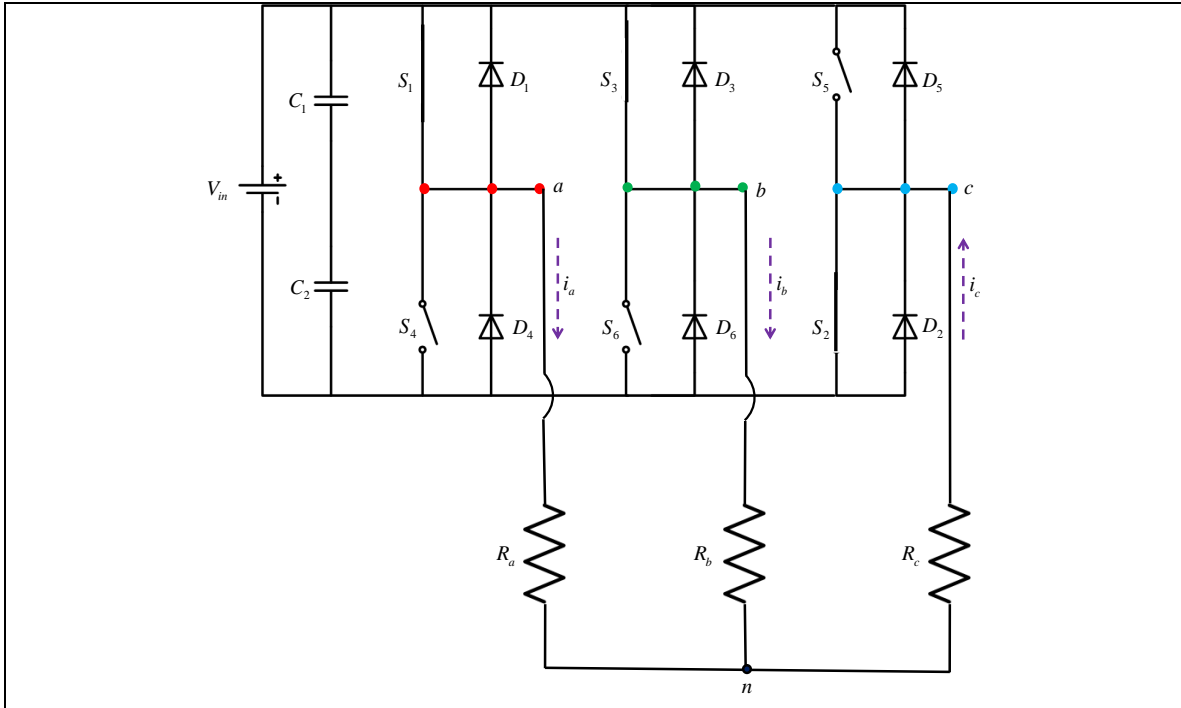
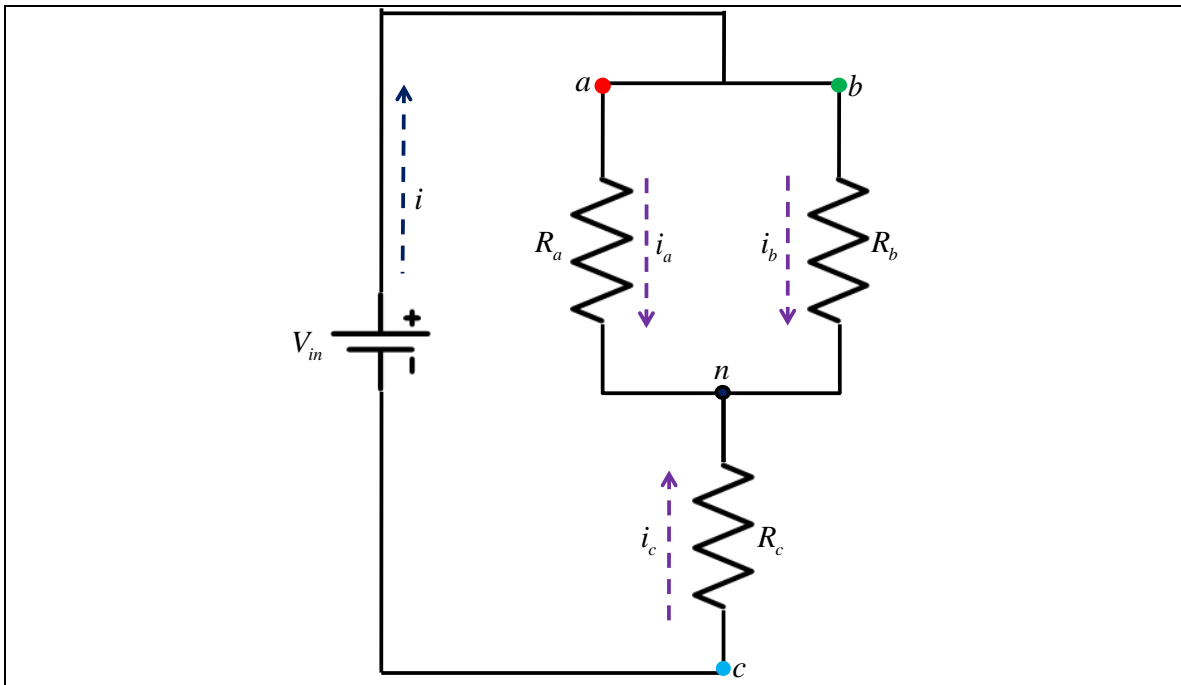

Figure 5a: Current through the load in Mode 32
Figure 5b: Equivalent circuit in Mode 3
**Mode 3:** In this mode the switches  $S_1$ ,  $S_2$  and  $S_3$  are **on** for  $\frac{2\pi}{3} \leq \omega t \leq \pi$ . The current flow and the equivalent circuits are shown in **Figure 5a** and **figure 5b** respectively. The magnitudes of currents and voltages are: